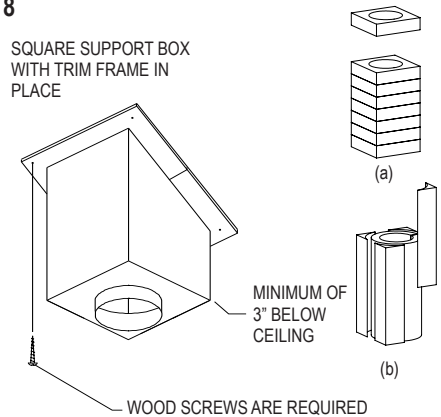

Figure 9
(**Fig.9**). For installation into a cathedral ceiling, you must use the Square Ceiling Support Box or Reduced Clearance Support Box and the two-piece Trim. The bottom of the square portion of the Support Box must be a minimum of 3" lower than the finished ceiling at the lowest side of the penetration (**Fig.9**). Level the Support Box and secure it to the framing using at least three (3) 8-penny nails per side (minimum of 12 nails total), or a minimum of (3) #8, 1-1/2" wood screws. Adjust the overlapping "U-shaped" Trim pieces so they cover the Support Box, and secure them to the framing members using the (6) 1-1/4" round
head wood screws provided (**Fig.9**).